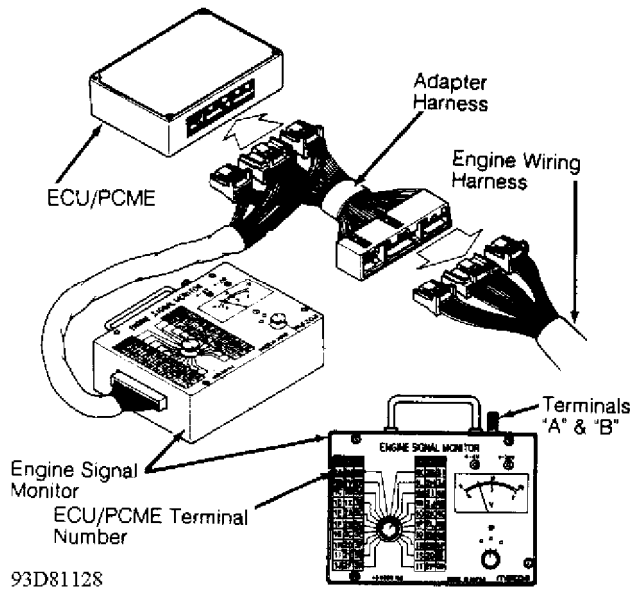

Fig. 16: Testing Engine Control Unit (ECU)
1) Locate Electronic Control Unit (ECU) or Powertrain Control Module (PCME). See ECU/PCME LOCATION table. Connect Engine Signal Monitor (49-9200-162) to ECU/PCME. See Fig. 16. Check voltage at each terminal of ECU/PCME. If input and output component voltage readings are not as specified, check faulty component. See appropriate J - PIN VOLTAGE CHARTS article, appropriate information in G - TESTS W/CODES article in the ENGINE PERFORMANCE section, and testing for appropriate component in this article.
CAUTION: DO NOT apply voltage to terminals "A" and "B" of engine signal monitor. See Fig. 16.